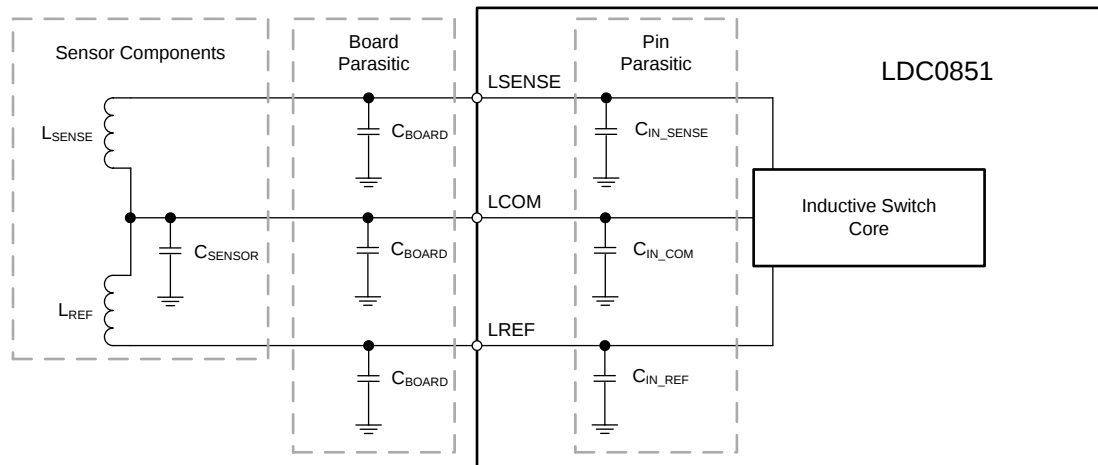

Figure 25. Sensor Components, Board Parasitics, and Package Parasitics Diagram
- C_{BOARD} is the parasitic capacitance of the board, see Figure 25
- C_{TOTAL} is sum of external sensor, board parasitic, and pin parasitic capacitances connected to LCOM, refer to Figure 25